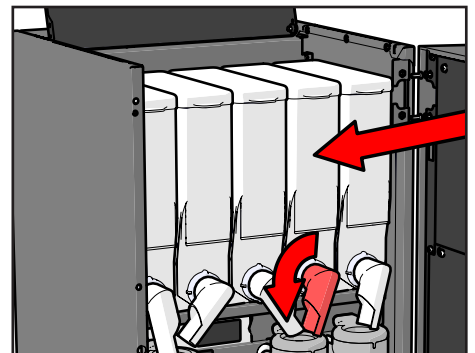

Figure 52.
6. Replace the canister and turn the spout to the correct position (see Figure 52).